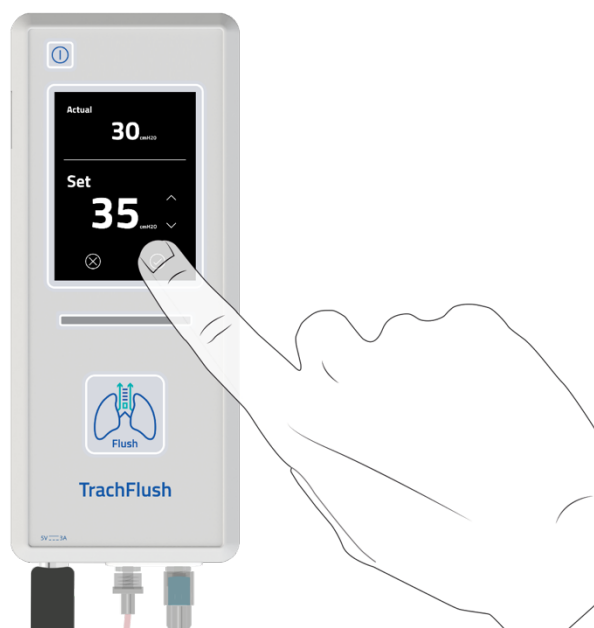

Figure 12: Accept increased cuff pressure
**Step 2:** To accept the new cuff pressure changes and apply a new pressure setting to the cuff, press  (accept) as shown on figure 12 below. The cuff will now be inflated until the Actual and Set cuff pressure is the same.